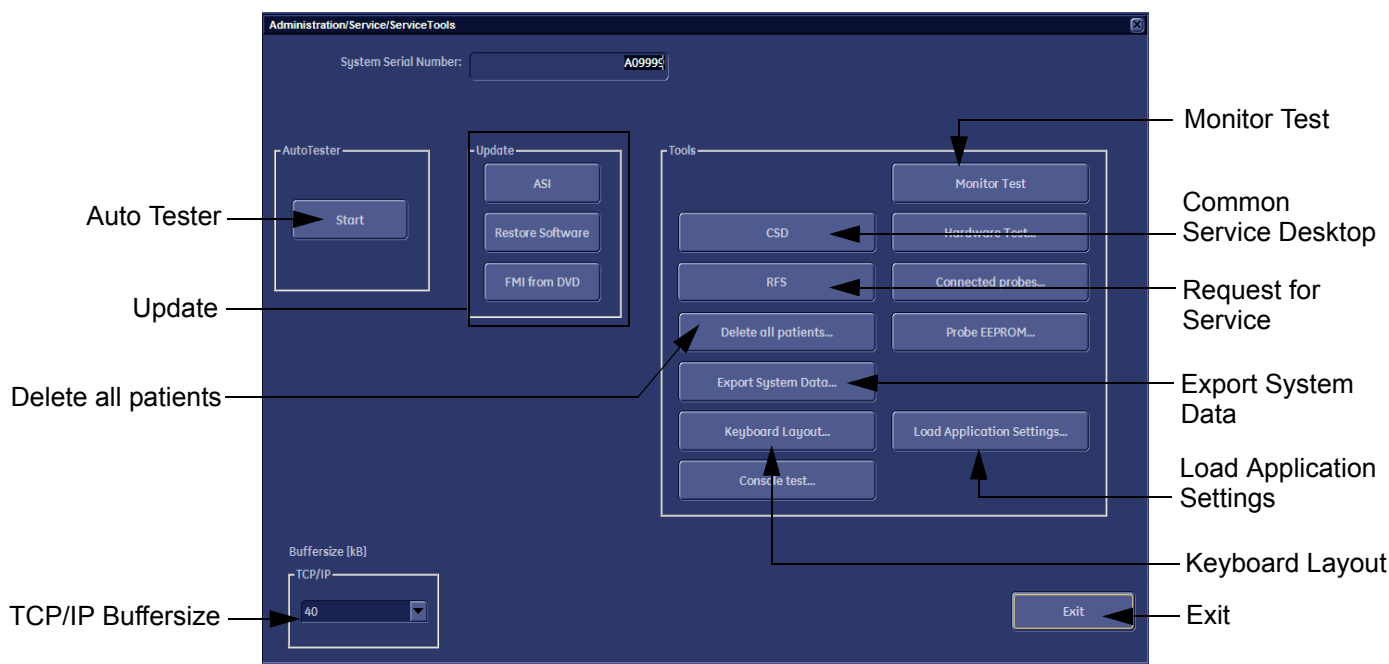

Figure 5-35 Service Tools window
- 1.) Select the LOAD APPLICATION SETTINGS button on the "Service Tools" page (Figure 5-35 on page 5-56).